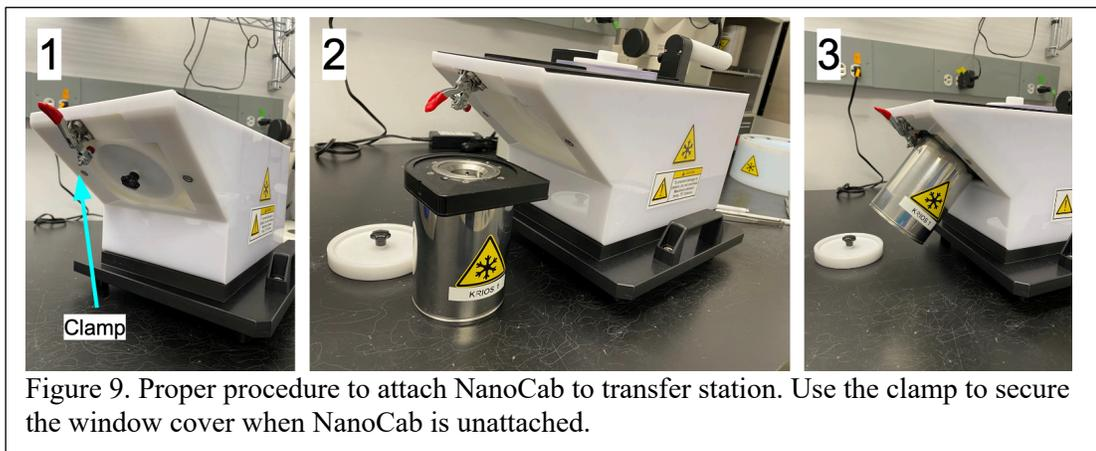

Figure 9. Proper procedure to attach NanoCab to transfer station. Use the clamp to secure the window cover when NanoCab is unattached.
4.5.3. With the NanoCab label facing you, rest the side edge on the pivot ledge of the loading window. Rotate the NanoCab opening flush with the transfer station. Secure by flipping up the red clamp (fig 9).